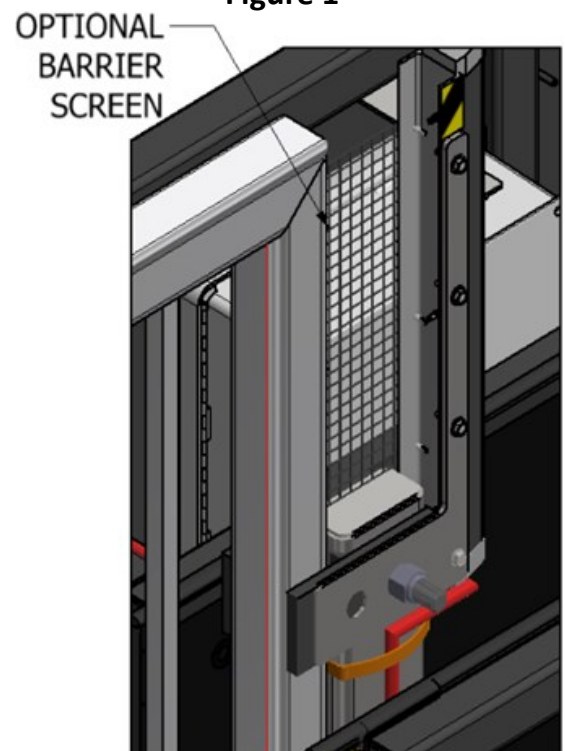

Figure 2
7. Place the **ARM OPEN EDGE** vertically as shown in figure 2 with the bracket and nut facing the the public/False Panel side of the gate.